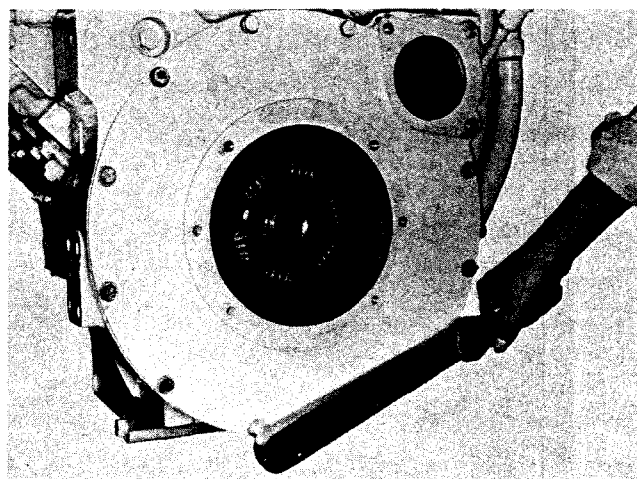

Fig. 5-14, (V11478). Torquing adapter plate capscrews
6. Torque adapter plate capscrew to 30 to 32 ft-lbs [4.15 to 4.43 kg m]. Fig. 5-14.